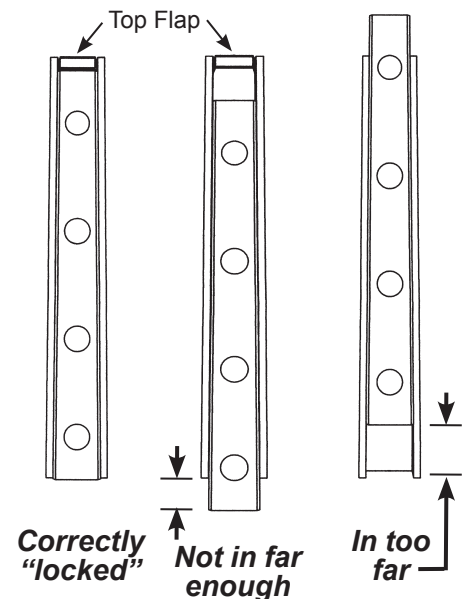

Figure 4
7. With scrap cardboard or other protective material over the fabric, use a rubber mallet (not a standard hammer) to gently tap the seat and back cushions until the interlocking wedges are "locked" together. **Important: Wedges are correctly "locked" when the inner wedge comes into contact with the top flap of the outer wedge, and the bottom edges align, as shown in figure 4. Avoid excessive force or damage to the wedges may occur.**
TROUBLESHOOTING TIP: If chair does not sit level on the floor, check that all wedges are correctly "locked," as shown in figure 4.
8. With scrap cardboard or other protective material over the fabric, use a rubber mallet (not a standard hammer) to gently tap the seat and back cushions until the interlocking wedges are "locked" together. Refer to figure 4 on opposite side of this sheet.
Important: Wedges are correctly "locked" when the inner wedge comes into contact with the top flap of the outer wedge, and the bottom edges align, as shown in figure 4. Avoid excessive force or damage to the wedges may occur.
TROUBLESHOOTING TIP: If chairs do not sit level on the floor, check that all wedges are correctly "locked" as shown in figure 4 on opposite side of this sheet.